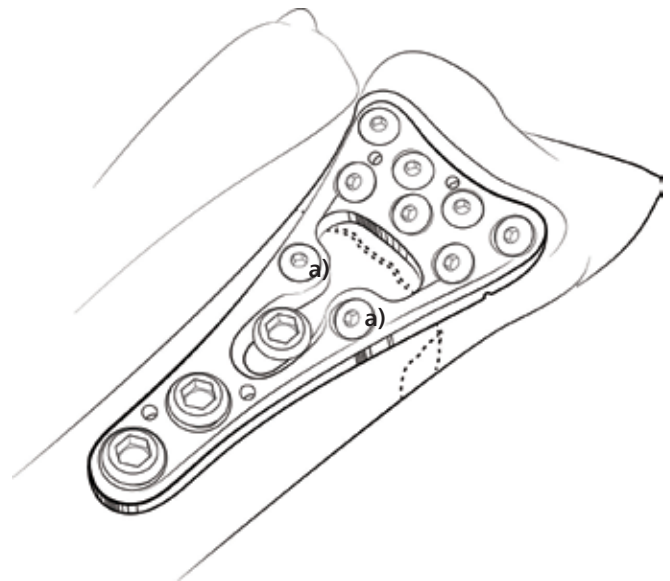

Fig. 14
18. Repeat above steps, inserting the remaining proximal and distal screws as determined by the operating surgeon (Fig. 14, 15). Use fluoroscopy to verify placement.